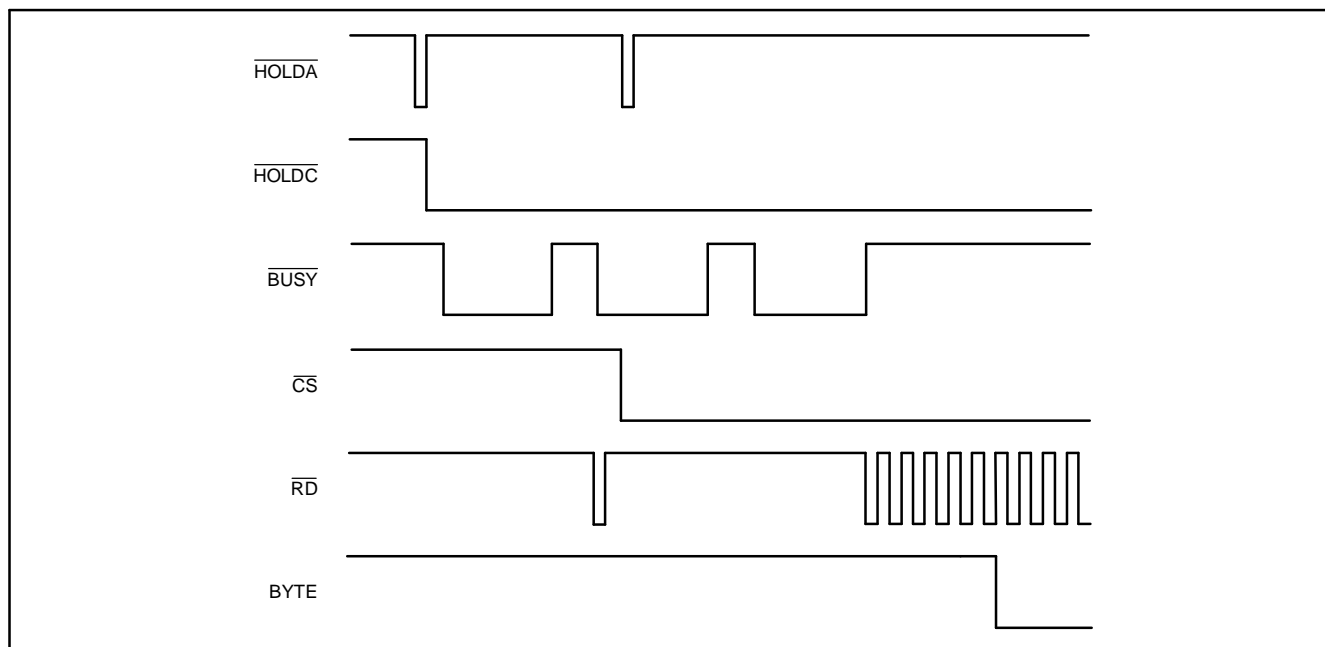
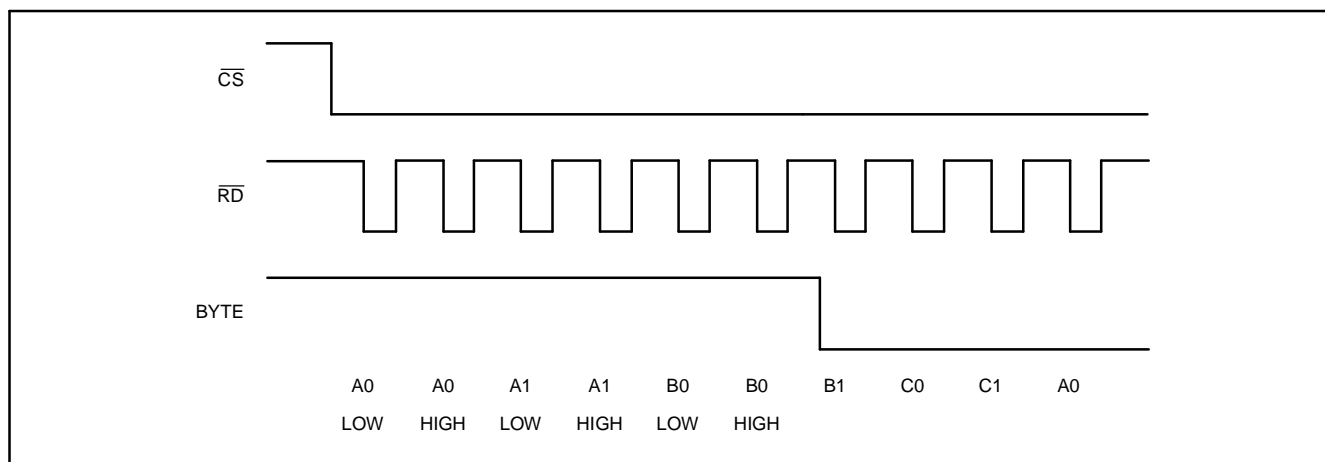

Figure 29. Reading Data in Cycling Mode
Figure 30. Reading Data in Cycling Mode
**BYTE**—If there is only an 8-bit bus available on a board, then Byte can be set high (see Figure 29 and Figure 30). In this case, the lower eight bits can be read at the output pins DB7 to DB0 at the first  $\overline{RD}$  signal, and the higher bits after the second  $\overline{RD}$  signal.
With (A2 A1 A0) = 110 the interface is running in a cycle mode (see Figure 29 and Figure 30). Here, data